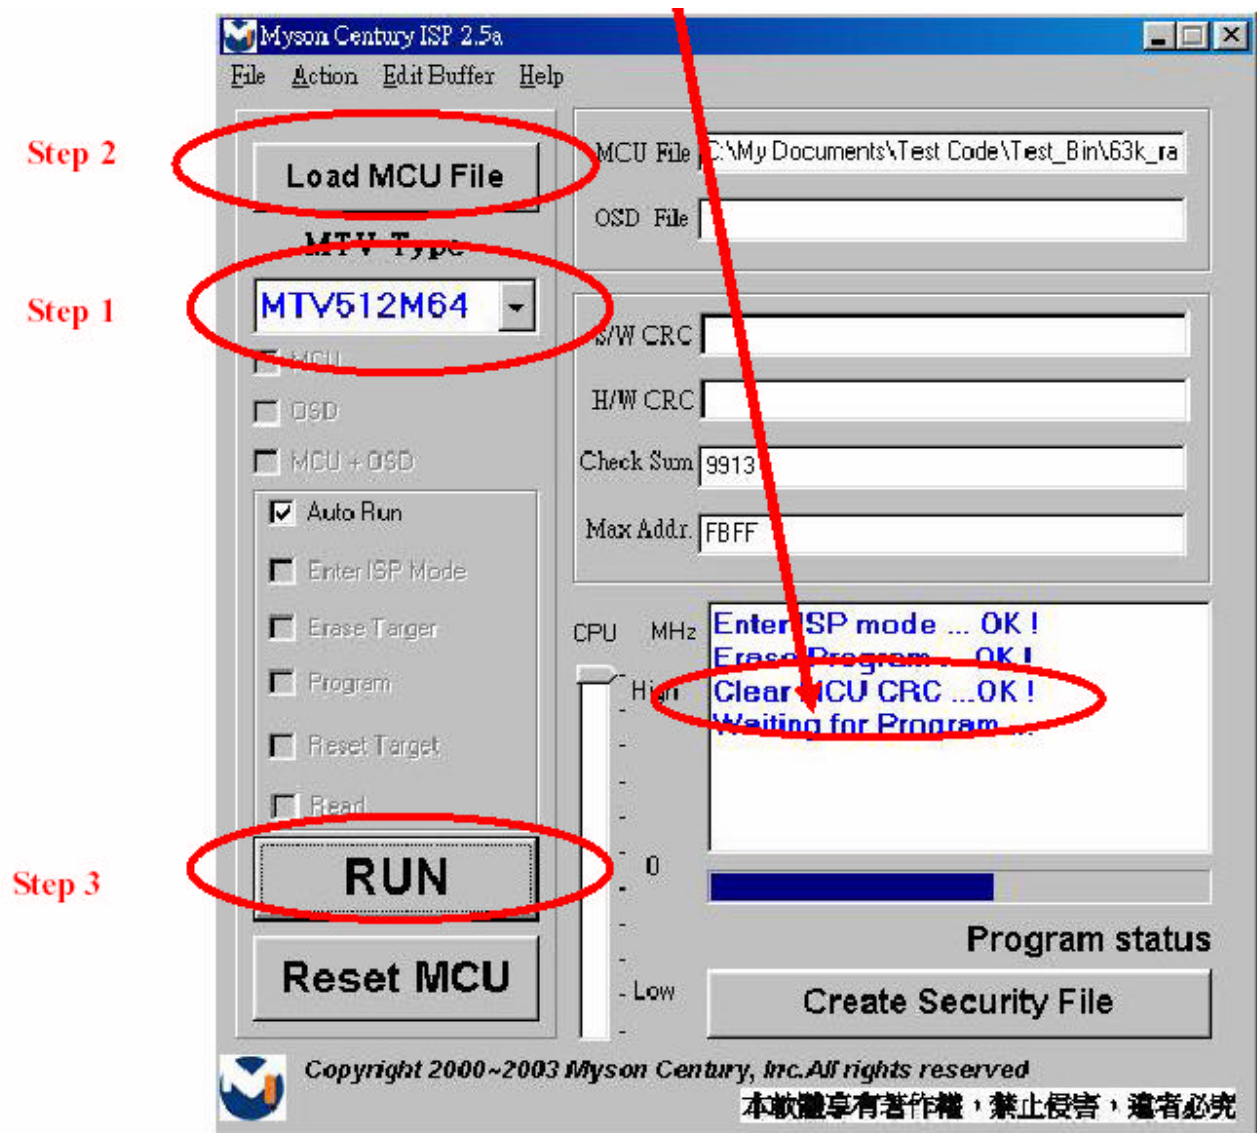

Fig 4.1
4.1 elect MTV type first, load the binary or Intel hex file that you want to program into the MCU, and select “ Auto ” item, then press “ RUN ” button, see Fig 4.1.